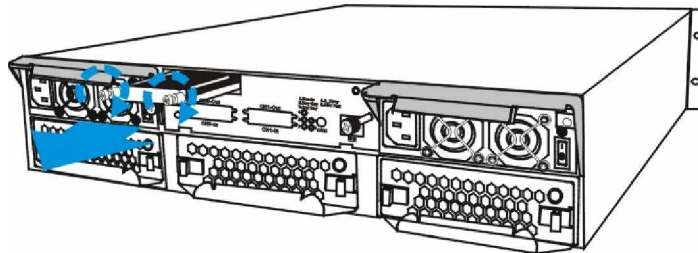

Figure 5-4: Remove the BBU Retention Screws
- Step 1. **Remove the faulty BBU module from the chassis.** The BBU module is secured to the chassis with two (2) spring screws. These screws must be loosened. To loosen, turn the screws counterclockwise. (See **Figure 5-4**)